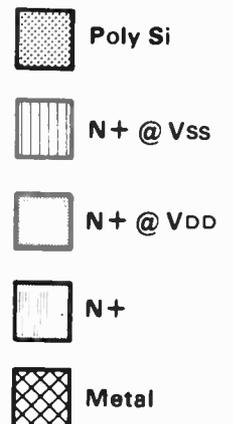

Figure 2. Comparison of HMOS and NMOS technologies.
**MOS structures** are a conductor and semiconductor substrate separated by a thin dielectric. This family includes MOS field effect transistors (FETs), MOS ICs, bipolar, hybrid, linear and digital ICs and MOS capacitors. Or more basically, the family includes any dual dielectric system or semiconductor with metallisation crossovers. The newer devices in this area — the VMOS (vertical groove MOS), the HMOS (high density MOS), the HEX MOS, and some of the prototype GaAs MESFETS (gallium arsenide metal semiconductor field effect transistor) — approach 1 micron or less compared with today's chip geometries of 4 to 5 microns (see Figure 2). Needless to say, as these